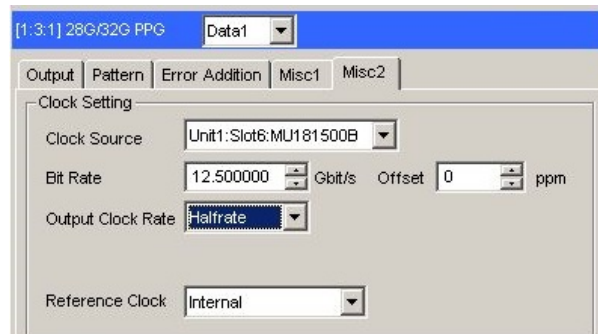

Figure E.5-2 Output Clock Rate Setting on the Misc2 Tab of MU183020A
- 3, 4. Use coaxial cables (applicable part, 0.8 m, K connector) to connect MU183020A's **Data Output1** and **Data Output2** connectors respectively with the **Data Input** connector of each MP1825B No.1 and 2. Then, on the **Misc2** tab of MU183020A, select **Halfrate** in the Output Clock Rate box. (Figure E.5-2)
- 3, 4. Use coaxial cables (applicable part, 0.8 m, K connector) to connect MU183020A's **Data Output1** and **Data Output2** connectors respectively with the **Data Input** connector of each MP1825B No.1 and 2. Then, on the **Misc2** tab of MU183020A, select **Half-rate** in the Output Clock Rate box. (Figure E.5-2)